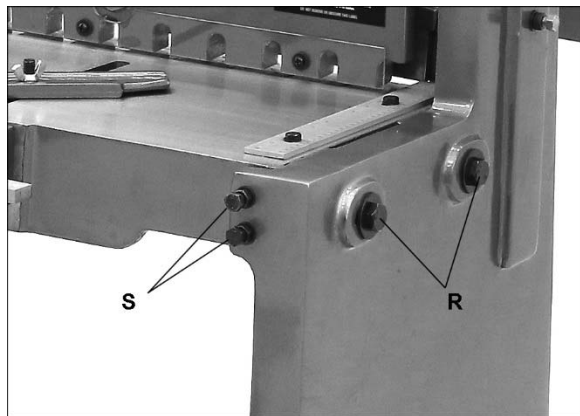

Figure 5
1. Loosen two bolts (R, Figure 5) on each side of shear.
2. Loosen hex nuts and bolts (S, Figure 5). Table must rest squarely on right and left side panels at all four corners while screws are loose. Shim legs at floor if necessary.
If shear does not cut paper: Move lower blade toward upper blade. Slightly loosen bolts (R, Figure 5) and loosen hex nuts and turn bolts (S, Figure 5) to move lower blade toward upper blade. Distance between upper and lower blades should be 0.002 to 0.005 inches. Do **NOT** let blades overlap.
Repeat test cut of paper. When satisfied, tighten hex nuts (S, Figure 5) and bolts (R, Figure 5).